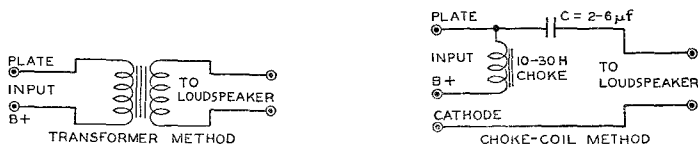

Fig. 63
Output-coupling devices are of two types, (1) choke-condenser and (2) transformer. The choke-condenser type consists of an iron-core choke with an inductance of not less than 10 henrys which is placed in series with the plate and B-supply. The choke offers a very low resistance to the d-c plate current component of the signal voltage but opposes the flow of the fluctuating component. A by-pass condenser of 2 to 6  $\mu$ f supplies a path to the speaker winding for the signal voltage. The transformer type is constructed with two separate windings, a primary and a secondary, wound on an iron core. This construction permits of designing each winding to meet the requirements of its position in the circuit. Typical arrangements of each type of coupling device are shown in Fig. 63. Examples of transformers for push-pull stages are shown in several of the circuits given in the CIRCUIT SECTION